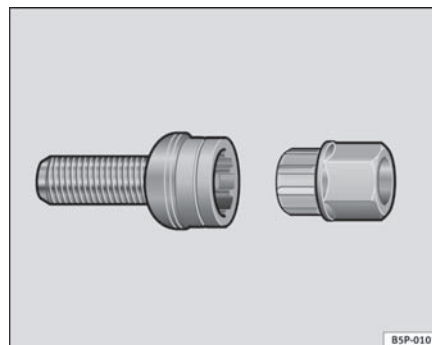

Fig. 137 Anti-theft wheel bolt
- Insert the adapter onto the wheel bolt and push it on as far as it will go ⇒ page 199, fig. 137.